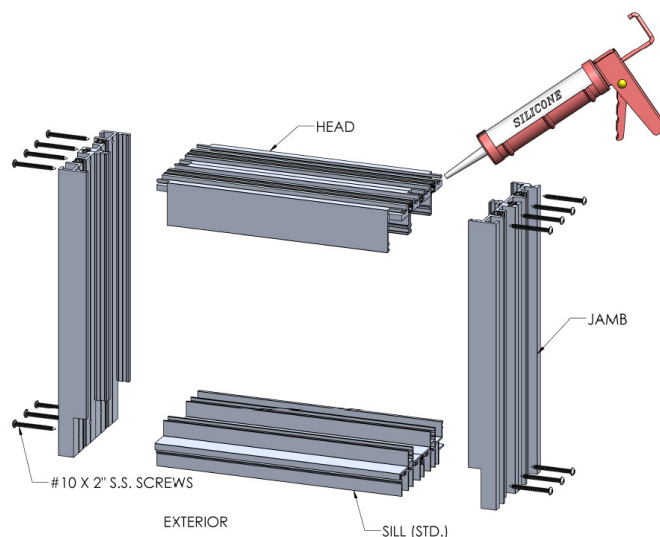

Figure 4:
3. Add sealant to the upper corners of the jamb(s) and to the end of the head that is compatible to the entire assembly as shown in Figure 4.